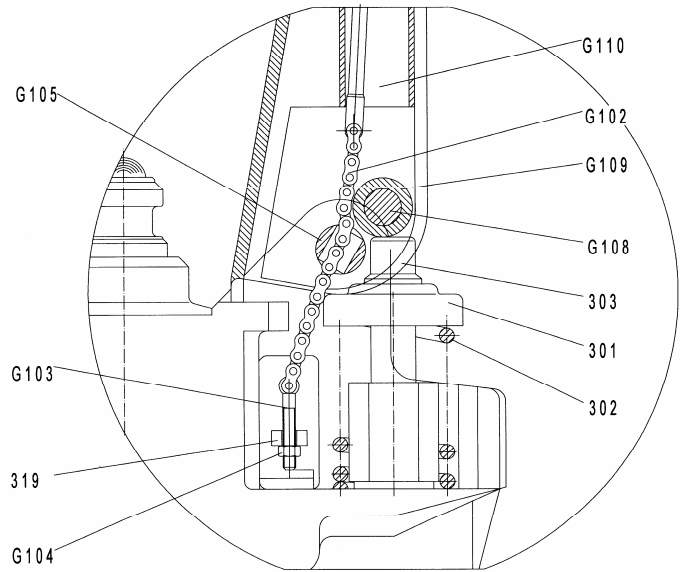

Fig. 3
2.2 Let control handle(G117) to the 'LOWER' position, then pass the adjusting nut(G104), adjusting bolt(G103) and chain(G102) through the hole of axle(G105) with your hand (See fig. 3).